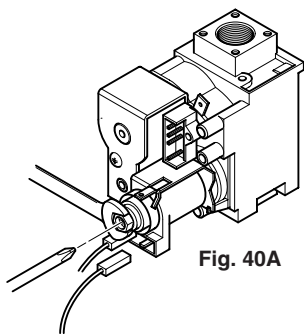

Fig. 40A
5. Remove the plastic cap and using a suitable spanner adjust the brass nut to give a maximum output setting pressure of 10.6 mbar (Fig. 40A).
6. Disconnect one of the modulator wires from the gas valve. Adjust the red screw to achieve the correct minimum output setting pressure of 1.7 mbar (Fig. 40A).